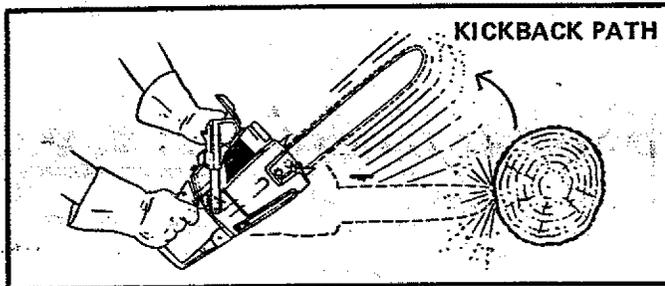

Figure 15
- Avoid letting the moving chain at the tip of the guide bar contact any object. Figure 15.